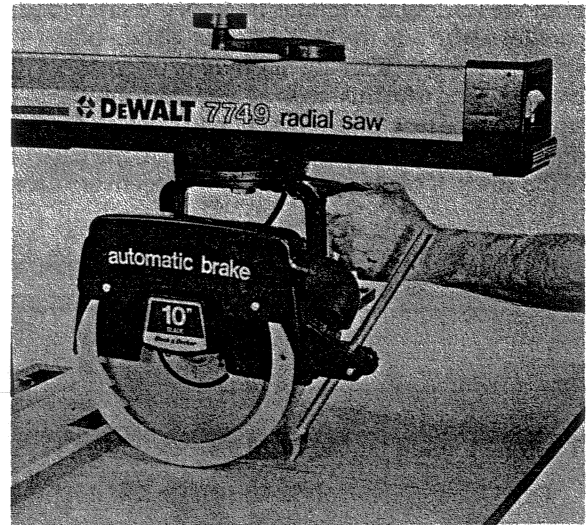

FIGURE 1
- (d) Lower the arm (saw still running) 1/4 turn. Pull the saw forward to the end of the arm with your *left hand*. This will cut a groove in the table top 1/32" deep. Tighten Rip Lock. (Refer to figure 1)
- (g) Return saw to position shown in figure 1. Lock Rip Lock and start motor. Using the yoke clamp handle, release the pressure on the bell and rotate saw counterclockwise, to the outtrip position. This cuts the swing line for outtripping. Loosen rip lock.
- (j) Return saw to position shown in figure 1 and move to the rear position behind the fence.